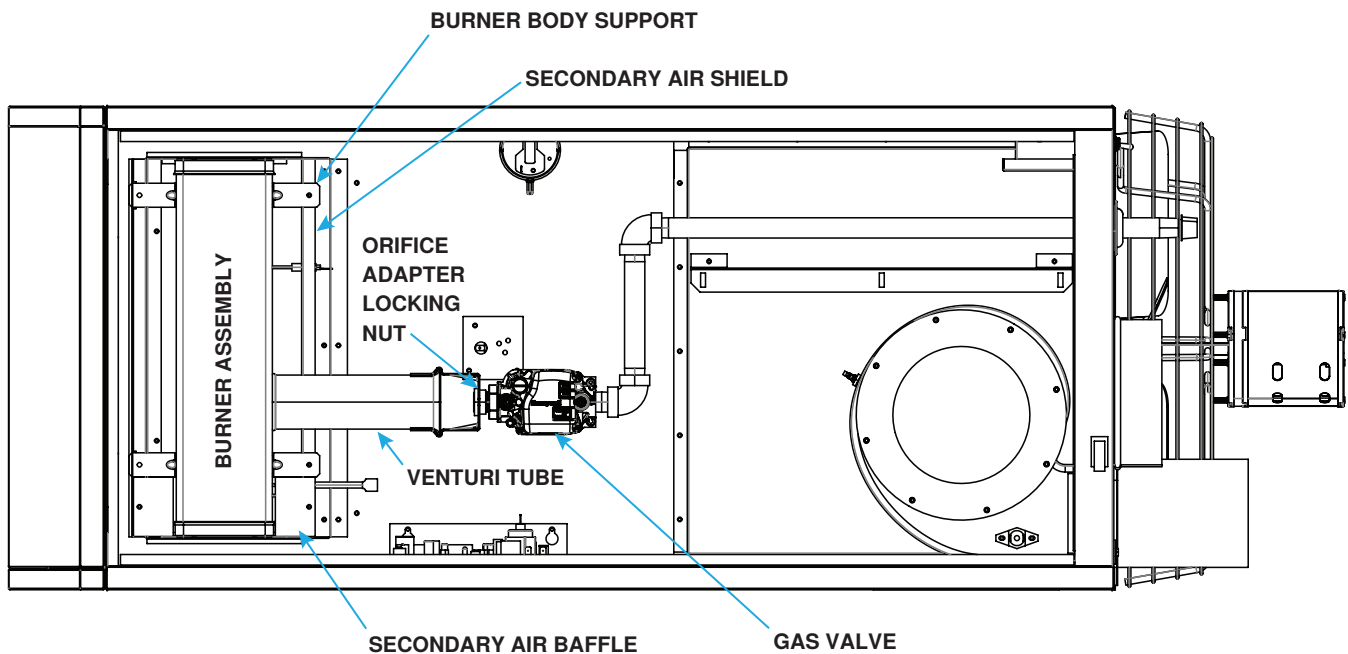

Figure 31. Burner Compartment (Unit Sizes 130–310)
Visually inspect the burner compartment (see Figure 31). If there is an accumulation of dirt, dust, and/or lint, clean the compartment and remove and clean the burner as follows:
2. Remove burner assembly (see Figure 31):
- (1) Remove four screws that secure end cap to burner housing.
- (2) Lightly tap end cap to remove it.
- #### 5. Re-install burner assembly (see **Figure 31**):